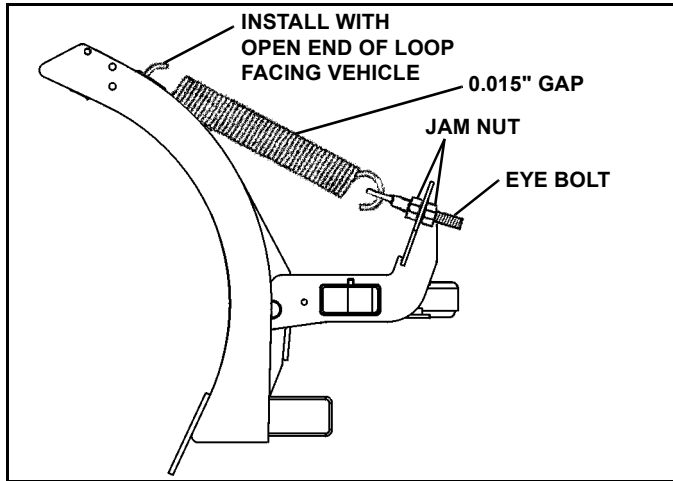

Figure 1-5
6. Remove the springs from the power pack carton. Hook springs onto blade with open end of loop facing up. (See Figure 1-5).
7. Hook other end of spring onto eyebolt. Insert one eyebolt on each side of the blade into the hole on the swing frame spring bracket. Use a nut on either side of bracket to secure. (See Figure 1-5).